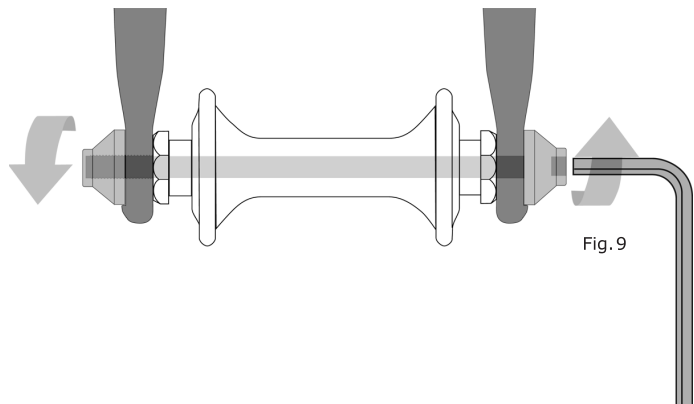

Fig. 9
2. A hollow axle with a shaft ("skewer") running through it which has a nut on one end and a fitting for a hex key, lock lever or other tightening device on the other (through bolt), [Fig. 9].